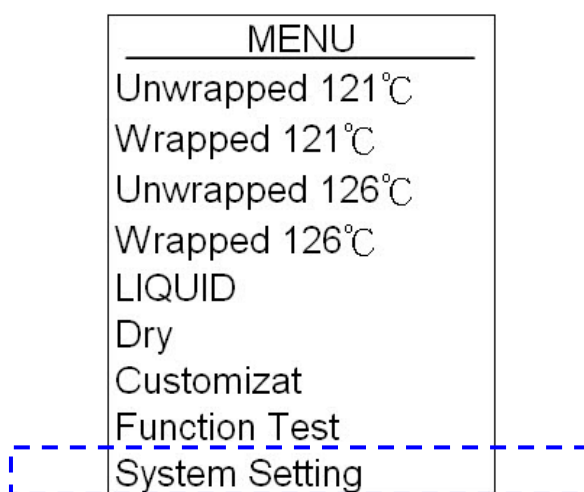
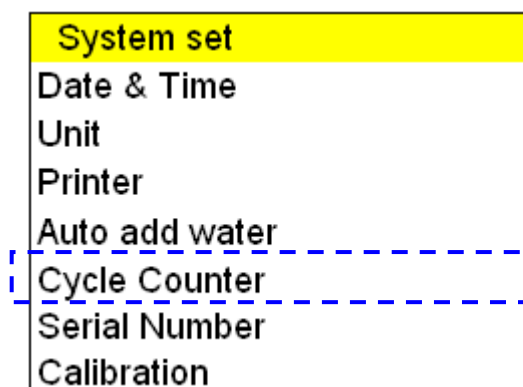

Figure 134
Figure 135
- A. Press  or  button to select System Setting program (Figure 134), and then press  button to select Cycle counter setting, as shown in Figure 135.